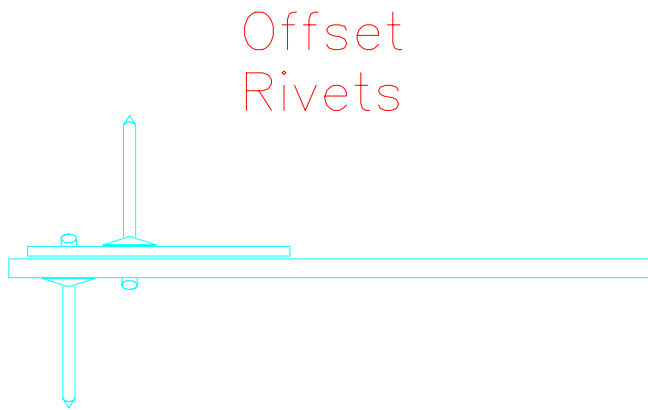

Figure 15.6.4
- 6) Attach bell crank bearing to the mixer with 1/8" (RR-5404) S.S. rivets. Insert rivets in a one up, one down pattern. Figure 15.6.4.